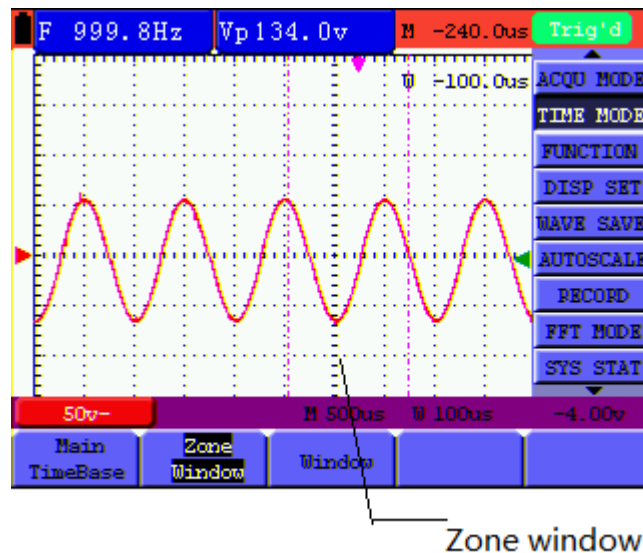

Figure 61: Zone Window
- The screen that looks like the following figure 61, 62 will be displayed.